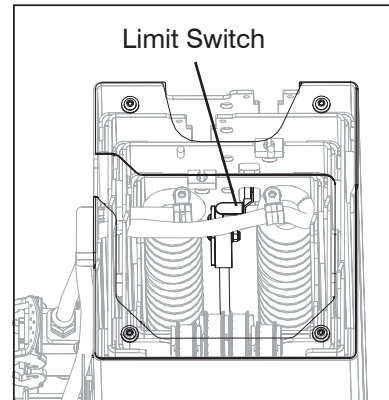

Figure 5-4. Limit Switch Inside the Mast Assembly
7. Locate the limit switch inside the mast (see Figure 5-4).